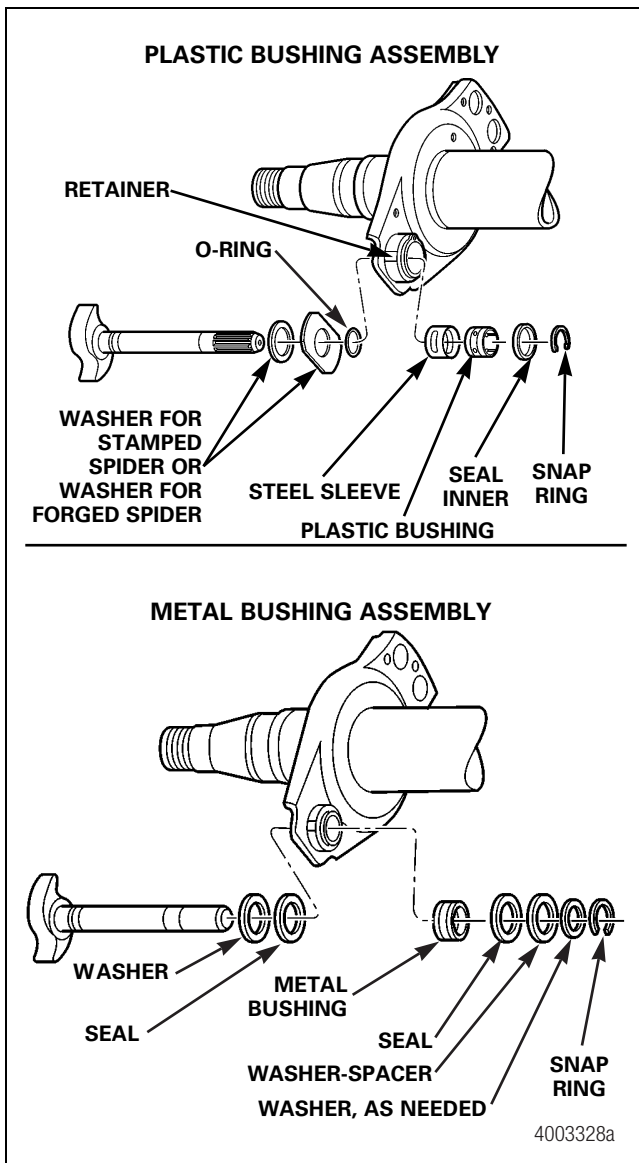

Figure 11.31
2. Remove all loose parts from the camshaft and retainer bore including the grease seals and washers. Figure 11.31.